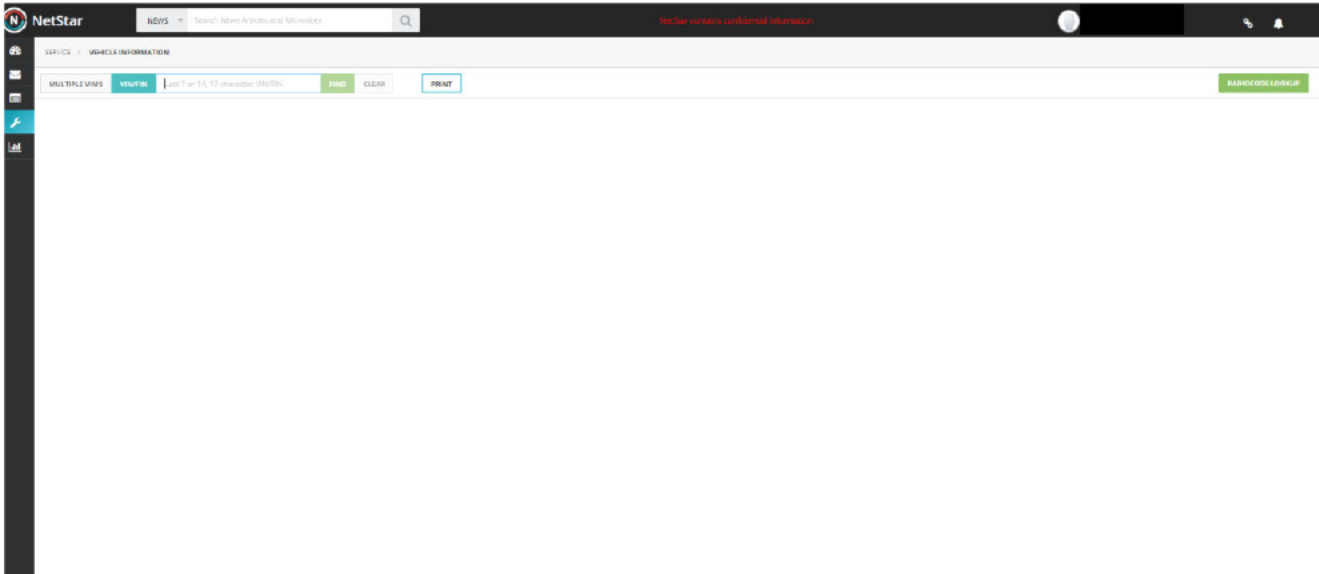

Figure 3
1. Log in to "NetStar" and call up the Vehicle Master Inquiry (VMI) screen (Figure 3).